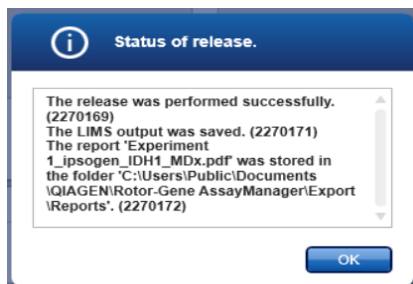

Figure 20. “Status of release” dialog.
19. The “Status of release” dialog box will appear. Click **OK** to accept (Figure 20).